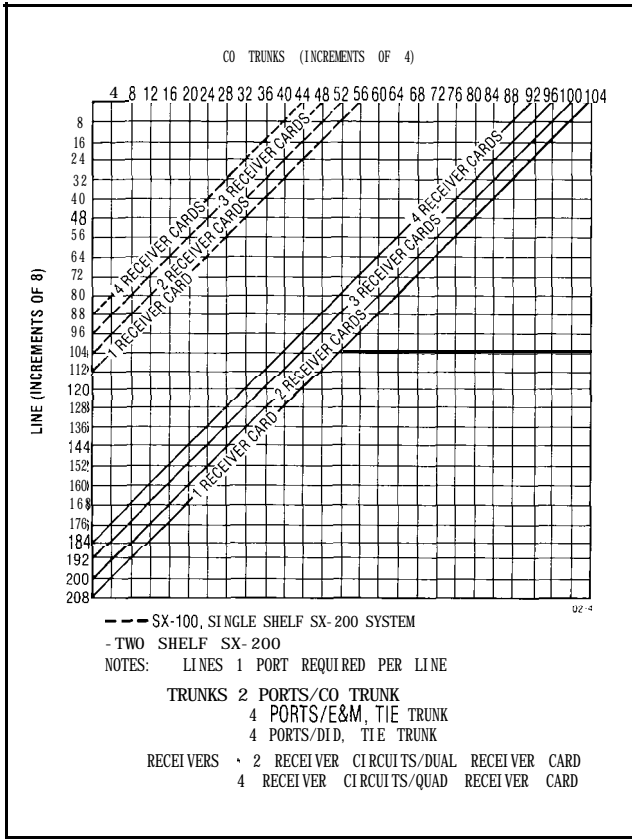

Fig. 2-1 Line/Trunk Configuration
2.01 The SX-200 Electronic PABX is an electronic switching system with a capacity of 256 ports. Two hundred and eight of these ports are available for assignment to lines, trunks and additional receivers (Fig. 2-1). The remainder are reserved for control functions. The system is electrically compatible with most existing station, key telephone, Private Branch Exchange (PBX) and Central Office (CO) equipment and provides: